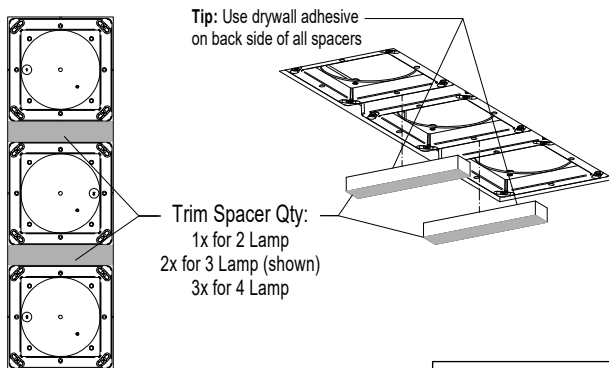

FIG 4.5 Install Trim Spacers for Square Trims
**Step 5** For Square Trims only - Secure Trim Spacers (make from drywall/sheet rock cutout) to metal surface on bottom of Housing. Refer to page 3 for cut length required - FIG 4.5 & 4.6.